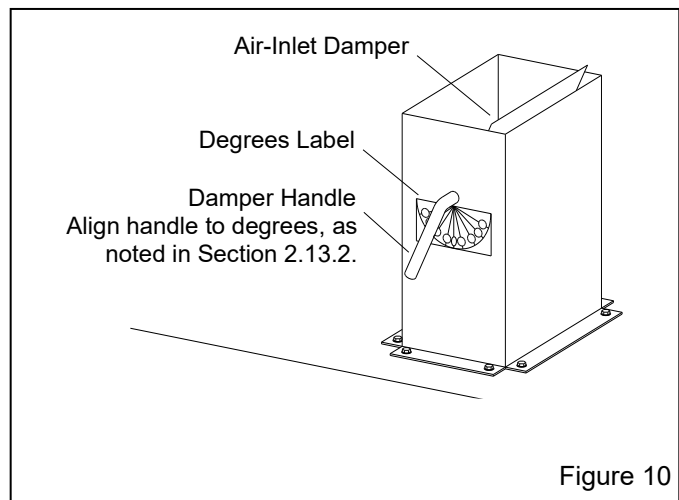

Figure 10
2.13 Set Air-Inlet Damper – Figure 10